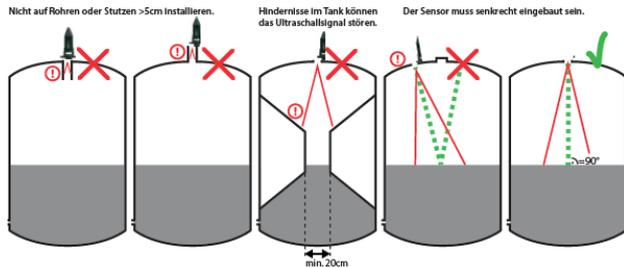

Fig. 1
1. Please check the installation options based on Fig. 1: Can the gauge be installed on the tank? Is there a wire opening / corresponding holes?